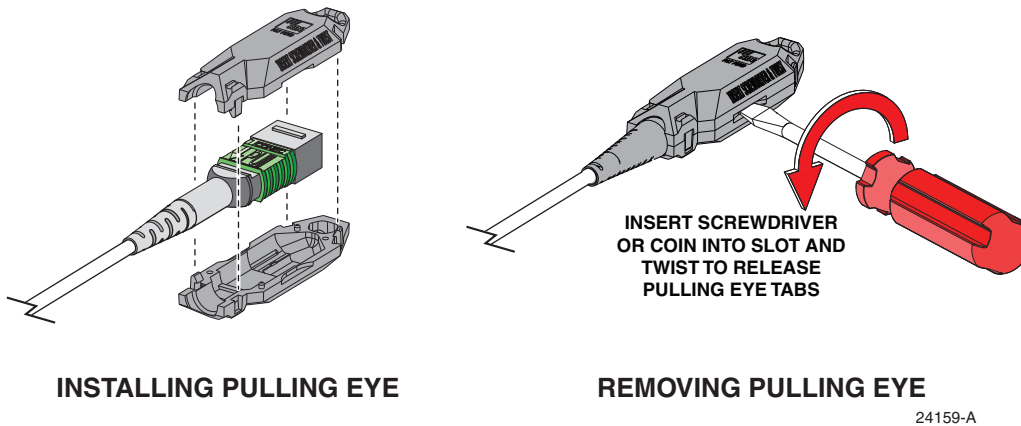

Figure 13. Removing the Pulling Eye
6. At the termination point, remove the pulling eye as shown in Figure 13, and connect the cable connector to the termination point adapter.